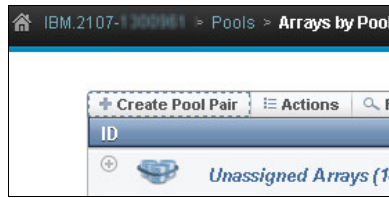

Figure 11-41 Create Pool Pair tab
2. Click **Arrays by Pool** to open the Array by Pool window, as shown Figure 11-41.
2. Click **Arrays by Pool** to open the Array by Pool window, as shown previously in Figure 11-41.